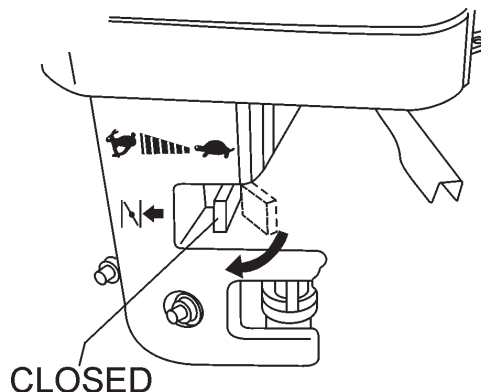

Figure 11. Engine Choke Lever (Closed)
3. Place the **choke lever** (Figure 11) in the "**CLOSED**" position if starting a **cold** engine.